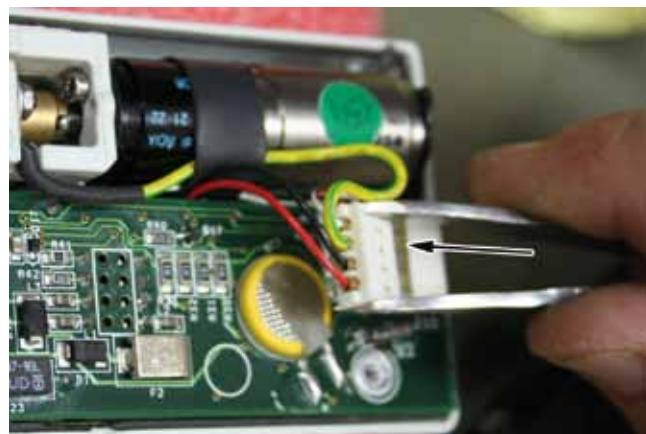

Figure 6. Disconnecting the motor encoder connector
Disconnect the motor encoder connector on the main PCB (Figure 6).
- d Connect the motor encoder connector (refer to Figure 6).